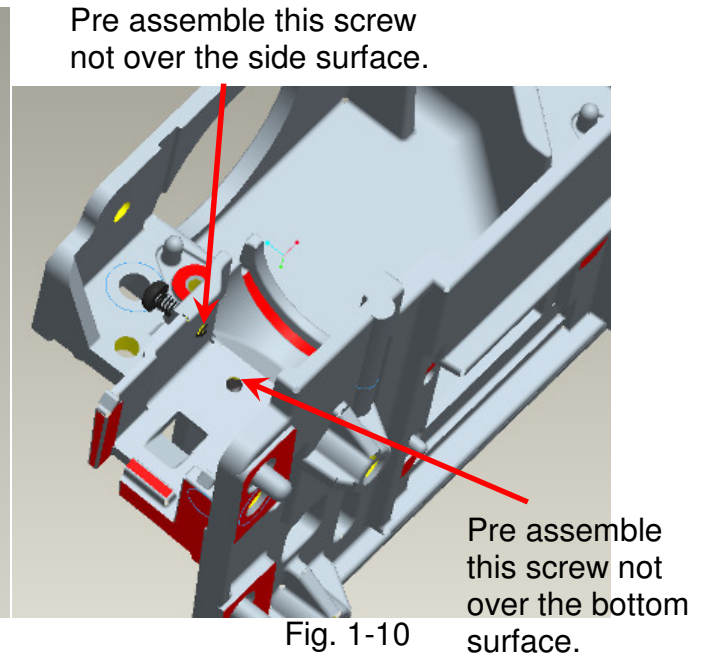

Fig. 1-10
** Adjustment criteria refer to below item 1.4 & Fig. 1-10.